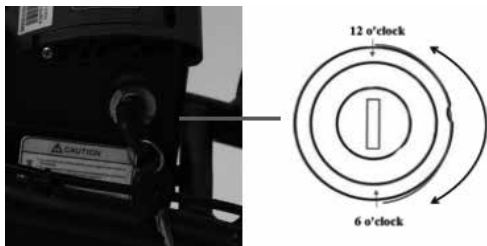

Fig. 3
**NOTE: Battery Lock (Fig. 3)**